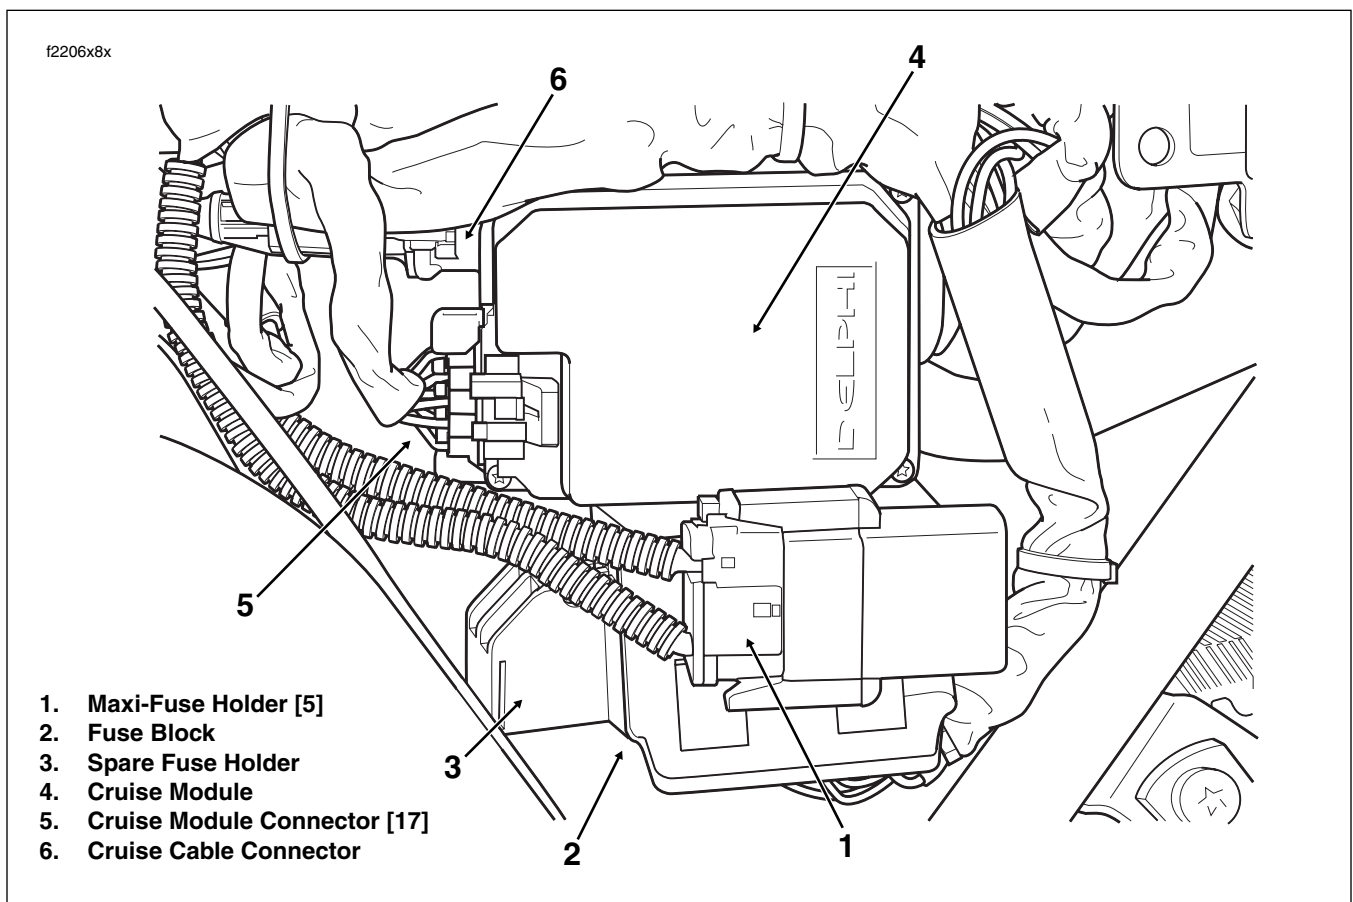

Figure 8-133. Cruise Control Module (Under Left Side Cover)
7. Lift locking latch and remove cruise module connector [17], 10-place Packard. See Figure 8-133.
7. Install cruise module connector [17], 10-place Packard. See Figure 8-133.